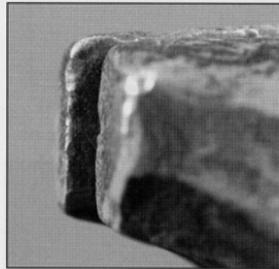

Fig 1. Jaws do not align horizontally
2. Jaws misalign left to right (fig 1)